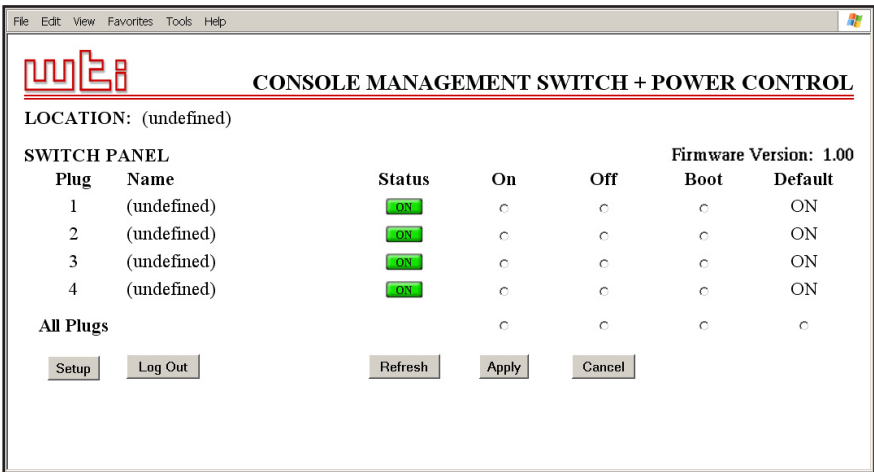

Figure 6.1: The Status Menu - Web Browser Interface
When you login to the CMS-6R4 command mode using the Web Browser Interface, the first screen that is displayed is the Status Screen. The Status Screen (Figure 6.1) lists the current On/Off status of the CMS-6R4's Switched Outlets. The Status Screen also provides a series of "radio buttons" which are used to control switching of the outlets.
2. When the Status Screen (Figure 6.1) appears, note that the screen includes a status field and switching and reboot controls for each of the CMS-6R4's Switched AC Outlets.